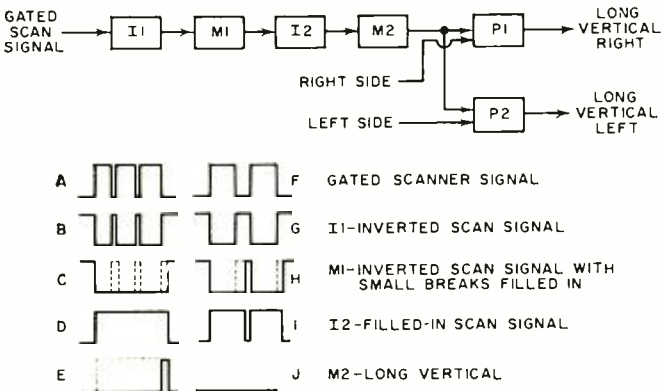

Fig. 5. Subroutine for detecting long vertical lines in spite of small imperfections. Timing circuits identify horizontal position.
steps. The block diagram in Fig. 5, for example, illustrates the subroutine for detecting long vertical lines. Since the line to be analyzed may be imperfect with small missing portions, this circuit is designed to ignore small breaks. At the same time, it must detect longer breaks, such as the clear break in the vertical sides of a well-formed "8."
The waveforms A through E in Fig. 5 illustrate the detection process for a long vertical line with minor breaks. The signal to be analyzed (A) is presented to the detector circuit and inverted (B) by *I1* so that the short missing portions show up as positive pulses. If these missing pulses are shorter than the timing interval of measuring circuit *M1*, they are eliminated, and do not appear at the *M1* output (C). The signal is inverted again (D) by *I2* and presented to the second measuring circuit (*M2*), whose interval is set to detect a long line. This circuit produces an output only if the signal is of greater duration than its measuring interval. Since a long signal is present, *M2* produces an output pulse, which indicates the presence of a long vertical line. Two primer circuits, *P1* and *P2*, determine whether the line is on the right or left of the character being detected. Timing circuits turn one of them on when the first edge of the character is detected, the other at the other end of the letter. Since the output of *M2* is fed to both in parallel, an output from one indicates the right side; the other, the left.
When a number that does not contain a long vertical—such as an “8”—is presented to the circuit, the timing circuits discriminate as shown in waveforms F through J in Fig. 5. Since the peak in the inverted signal (C) is of longer duration than the timing interval of M1, it appears at the output of M1 (H) and is inverted (I). Neither of the two long positive pulses is as long as the timing interval of M2, so this timing circuit produces no output. Subroutines of about the same complexity are used to determine the presence or absence of other vertical and horizontal strokes.